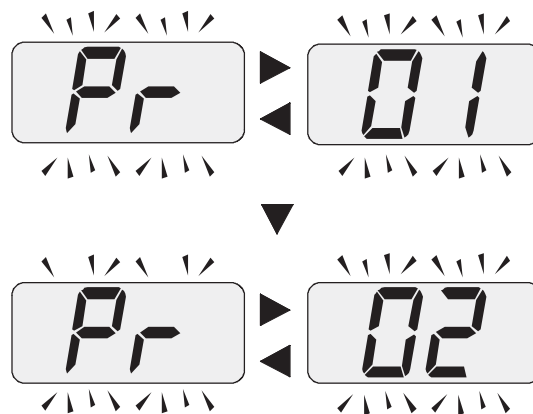

Figure 9.8
- 3 The display shows Figure 9.8.